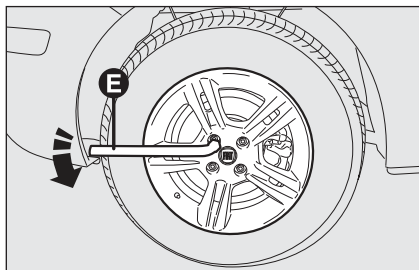

fig. 3
- loosen the bolts of the wheel to be replaced by about one turn with the wrench provided **E-fig. 3**; if you have alloy wheels, rock the car to make it easier to separate the rim from the wheel hub;